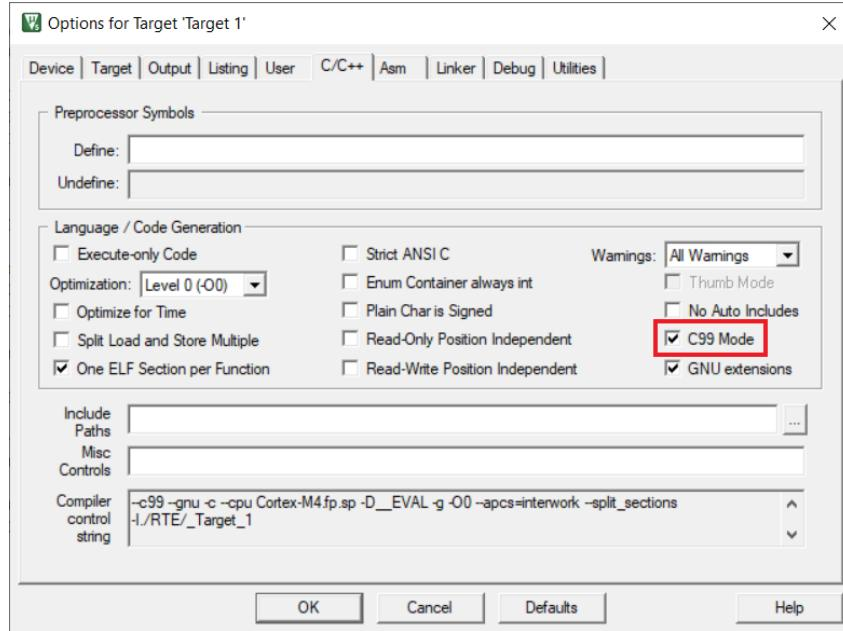

Figure 8
- Under the **C/C++** tab, ensure that the **C99** option is checked (see Figure 8).